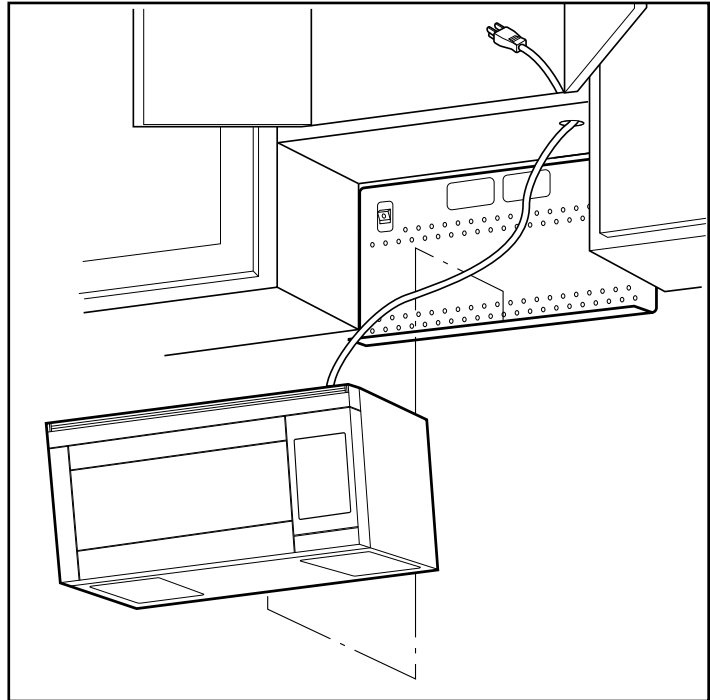

Figure 20
2. Hang the oven on the lower edge of the mounting plate. Rotate the unit upward. See Figure 20. Take care that the power cord is able to clear the edge of the hole as the oven is rotated upward. (In the case of a non-recessed bottom in the top cabinet, the hole for the cord may need to be enlarged.)